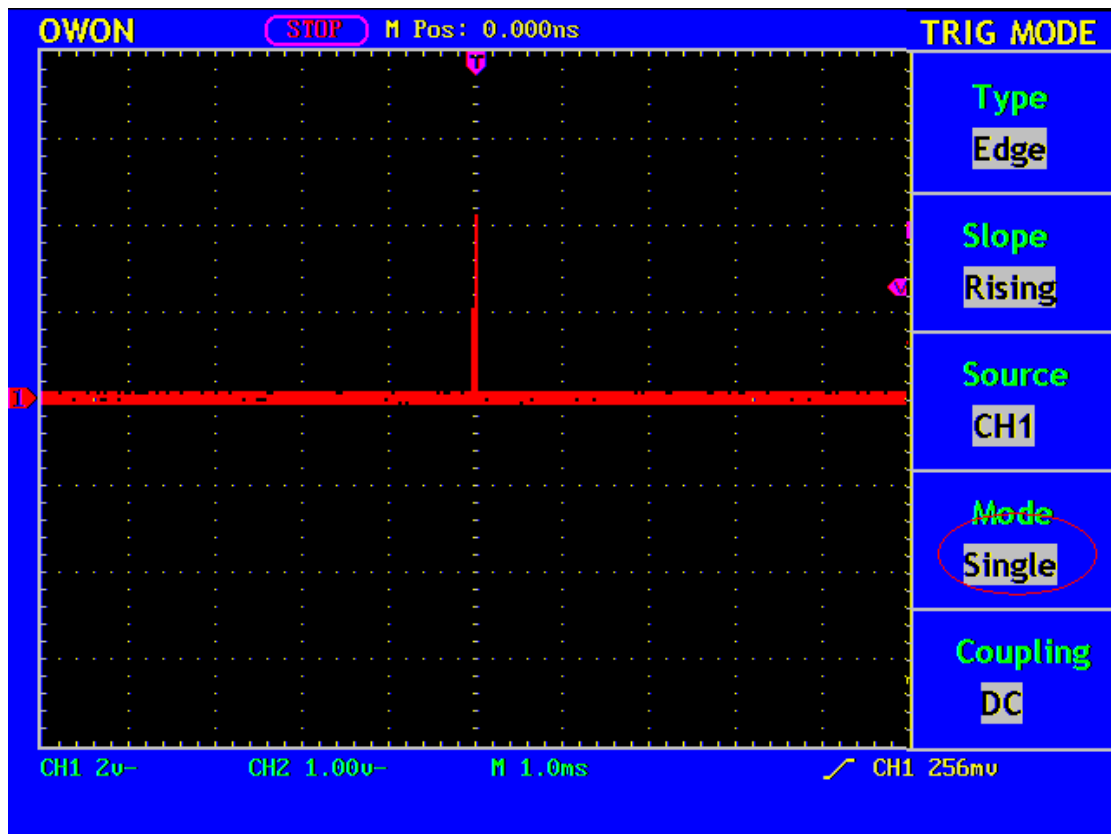

Fig. 57 Capture the Single Signal
10. If the **Trigger State Indicator** at the top of the screen does not indicate **Ready**, push down the **RUN/STOP** button and start **Acquire**, waiting the emergence of the signal in conformity with the trigger conditions. If a signal reaches to the set trigger level, one sampling will be made and then displayed in the screen. With this function, any random occurrence can be captured easily. Taking the burst burr of larger amplitude for example, set the trigger level to the value just greater than the normal signal level, and then press the **RUN/STOP** button and wait. When there is a burr occurring, the instrument will trigger automatically and record the wave form generated during the period around the trigger time. With the **HORIZONTAL POSITION** knob in the horizontal control area in the panel rotated, you can change the horizontal position of the trigger position to obtain the negative delay, making an easy observation of the waveform before the burr occurs (see Fig. 57).